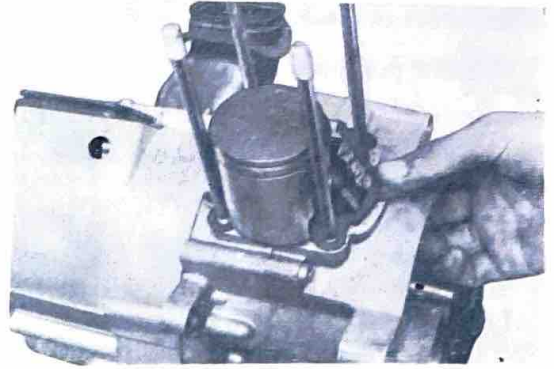

Fig. 3-3-3
- a. Always use new cylinder base gaskets when overhauling the engine. (Fig. 3-3-3)